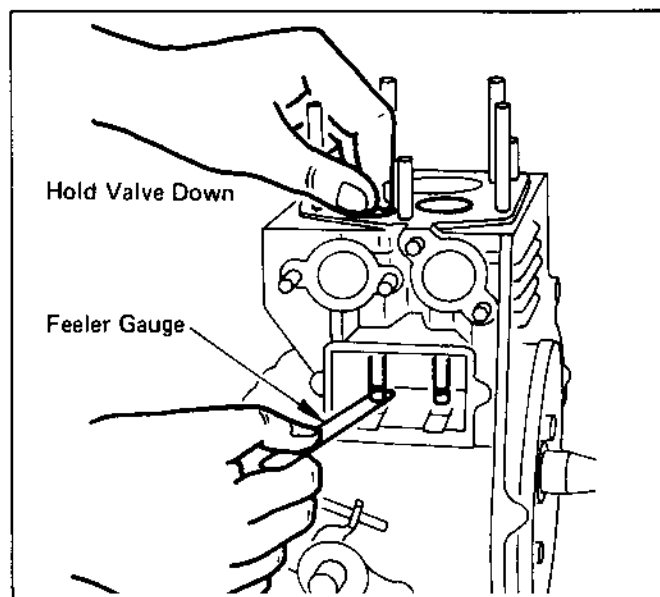

Fig. 6-3-6
- 4) Tappet Adjustment (See Fig. 6-3-6)